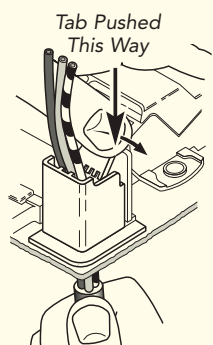

Figure 7a
- To assist pushing the load cable through the front of the product, ease the clamping jaw pressure by holding the product securely in one hand and pushing the tab firmly with your thumb in the direction shown in fig. 7a.